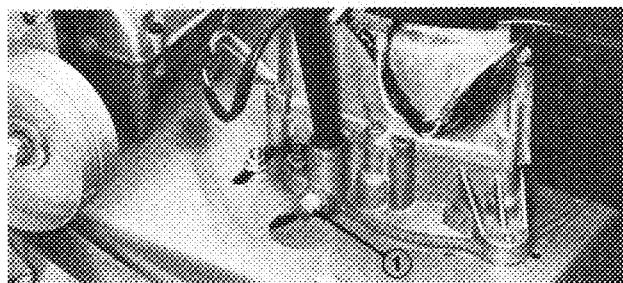

Figure 16
- b. Turn engine off and place drain pan under frame, below drain plug (Fig. 16). Remove drain plug and allow all oil to flow into drain pan. Install drain plug after oil stops flowing.